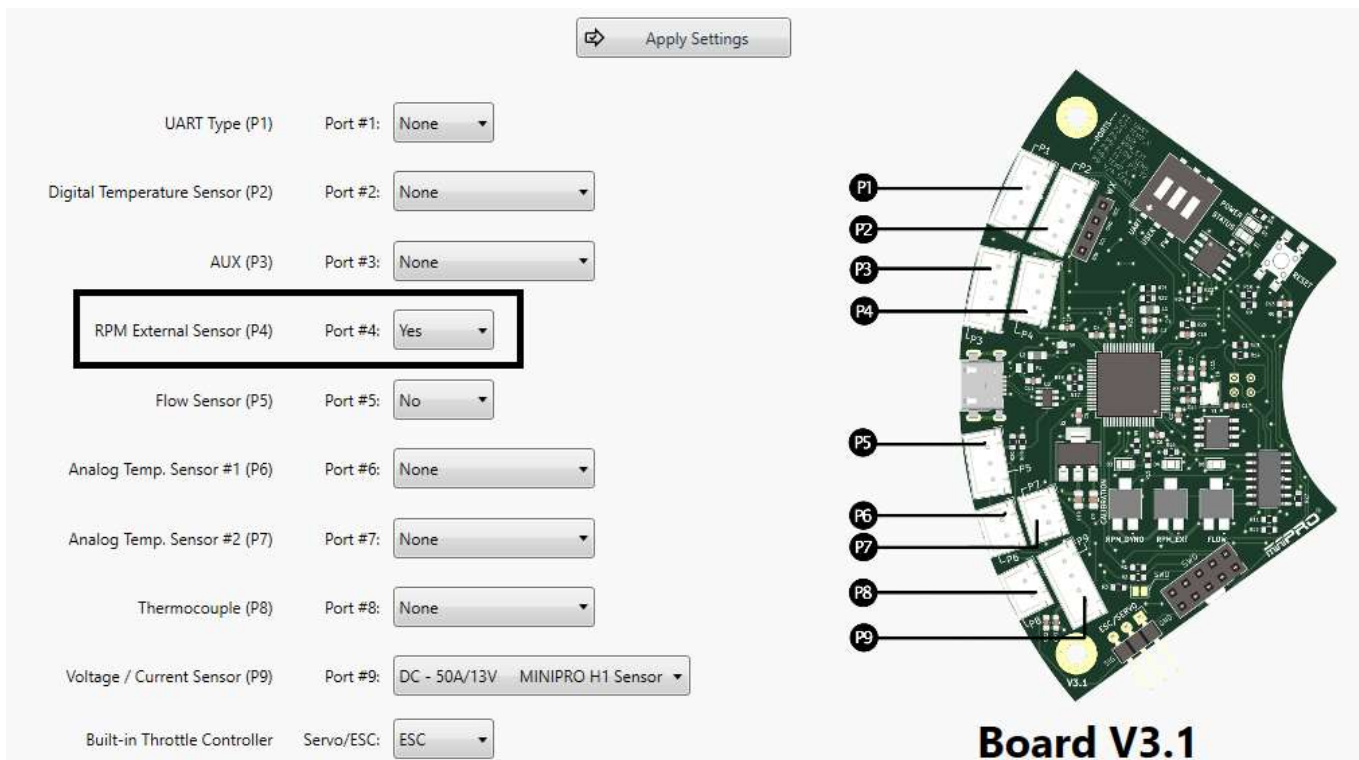

Figure 2: BLDC. Sensor Configuration
2. Connect BLDC RPM Sensor 3 pin cable to port P4 (see Figure 2).